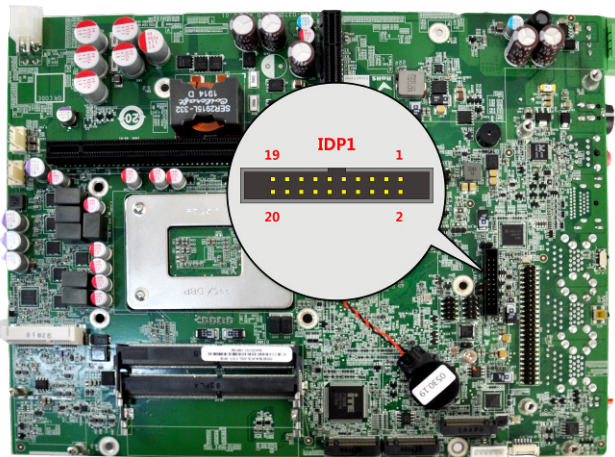

Figure 3-17: Internal DisplayPort Connector Location
Step 2: Locate the internal DisplayPort connector. The location of the internal DisplayPort connector is shown in Figure 3-17